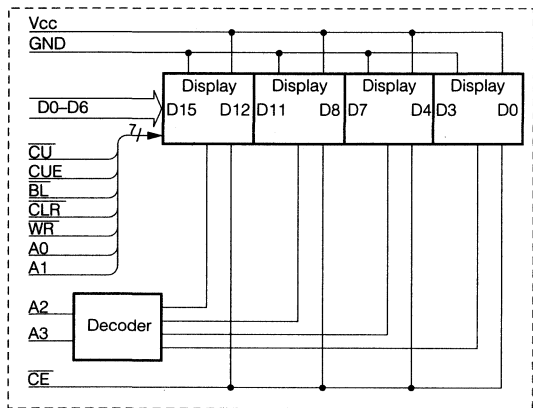
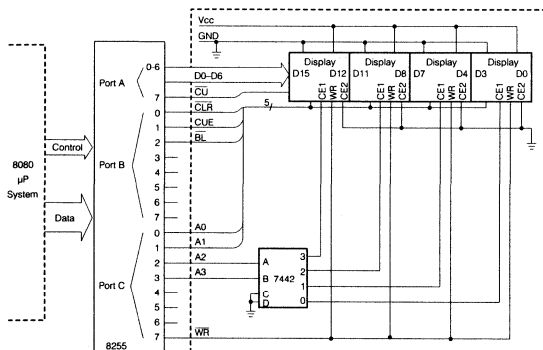

Figure 6. General Interface Circuit
Figure 7. 16-Digit parallel I/O system
A general and straightforward interface circuit is shown in Figure 6 using the DL 2416T, but any 2416 display can be used interchangeably in these examples (also applies to Figures 7, 8, and 9). This scheme can easily interface to μ P systems or any other systems which can provide the seven data lines, appropriate address and control lines.
The parallel I/O device of a microprocessor can easily be connected to the circuit in Figure 6. One eight bit output port can provide the seven input data bits and the cursor (CU). Another eight bit output port can contain the address and chip enable information and the other control signals.
Figure 7 illustrates a 16-character display with an 8080 system using the 8255 programmable peripheral interface I/O device. The following program will display a simple 16-character message using this interface.